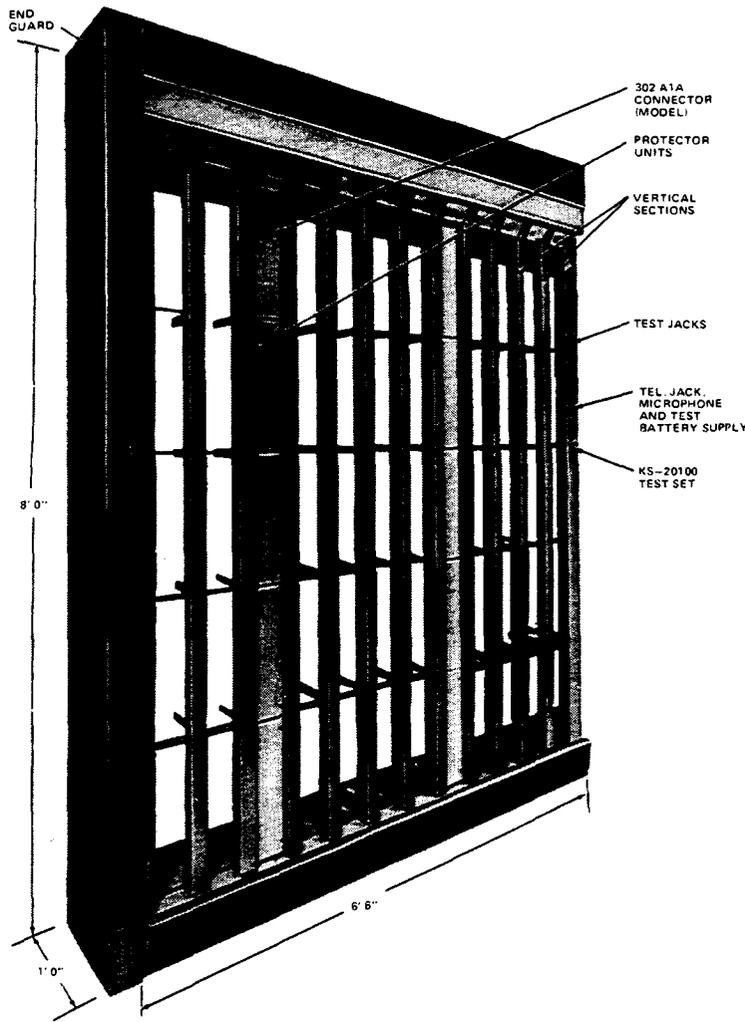

Figure 11—Modular Protector Frames — Front View (12 Verticals)
5.06 The modular protector frame for 302-type connectors (Figure 11) has been primarily used with earlier *ESS*™ and *COSMIC* I-type modular DFs. Framework is available for additions to this PF as described in the following paragraphs. Note that the newer high density modular PF, which mounts 308-type connectors, is also compatible for additions.